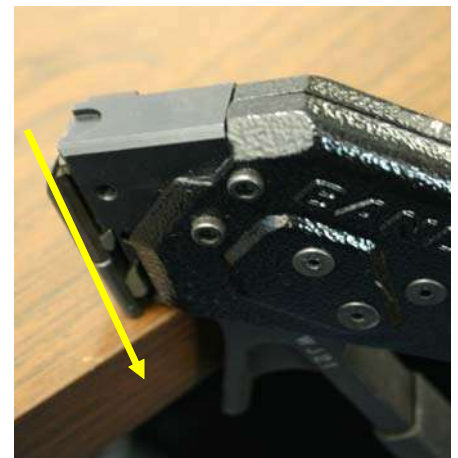

Figure 6
7. Using the edge of a table or bench, force the tension lever against the blade. This will force the blade against the knife and ensure a zero-gap - Figure 6.